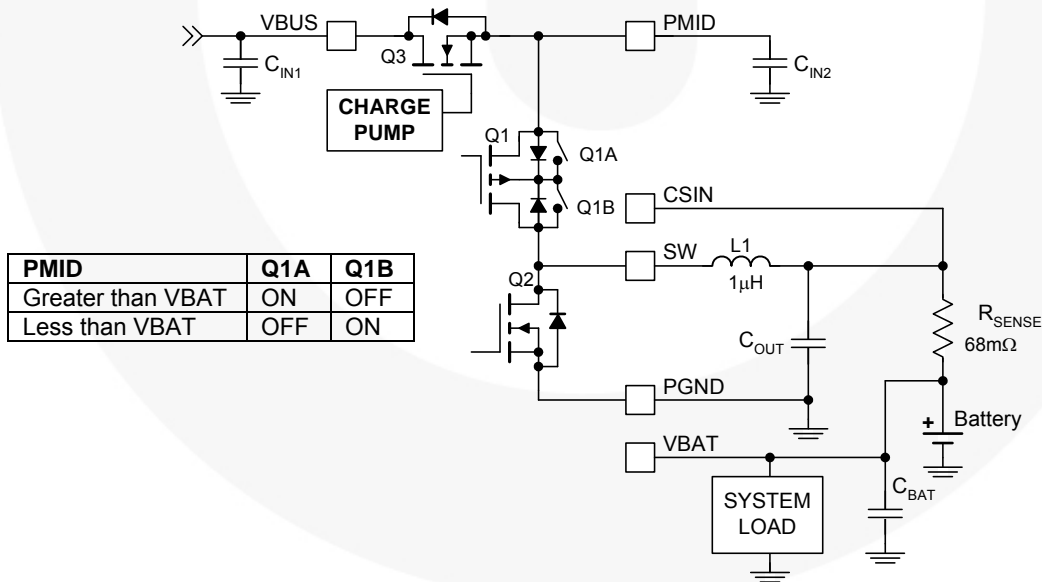

Figure 3. Power Stage
- 6.3 V rating is sufficient for CMID since PMID is protected from over-voltage surges on VBUS by Q3 (Figure 3).